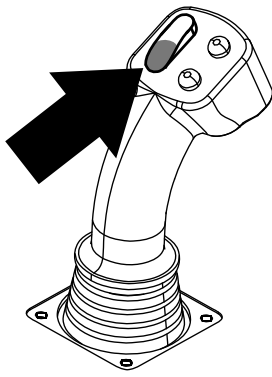
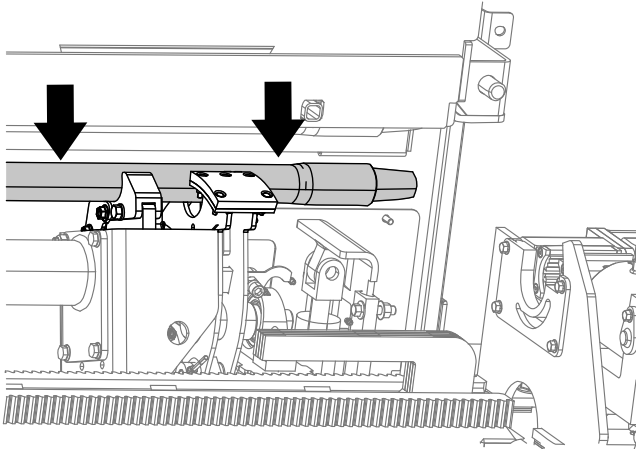

Figure 26
Figure 27
3. Hold the lower section of the rocker switch (Figure 26) until the cam assembly rotates to the selected row and the pipe lowers into the opening (Figure 27).